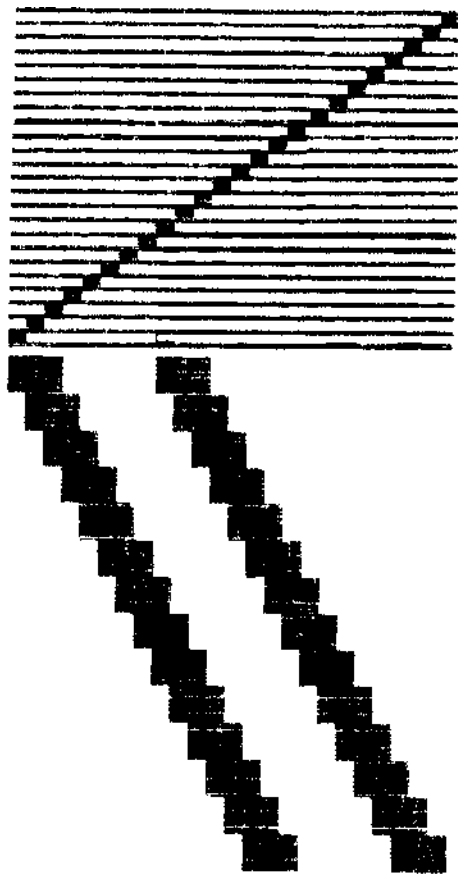
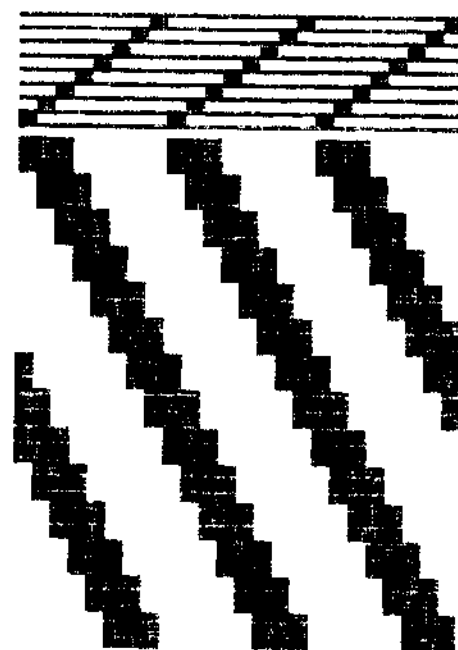

FIGURE 12
FIGURE 14
**Example 3, Fig. 12**
The rug design of Fig. 12 has 24 blocks and could be woven on 26 shafts. The rug design of Fig. 14 is similar, has only 8 blocks and can be woven on 10 shafts. The difference is that in Fig. 12, the two twill lines are isolated on a blank ground. This blank ground can be an additional pattern block (the 9th) which decreases in size to the right and increases to the left. The way to increase pattern block 9 (threaded on shaft 11) is to shaft-switch the pattern warp ends at the left edge and right edge of the two twill lines from the blocks on which they are threaded (shafts 3 through 10) to the blank block (shaft 11).